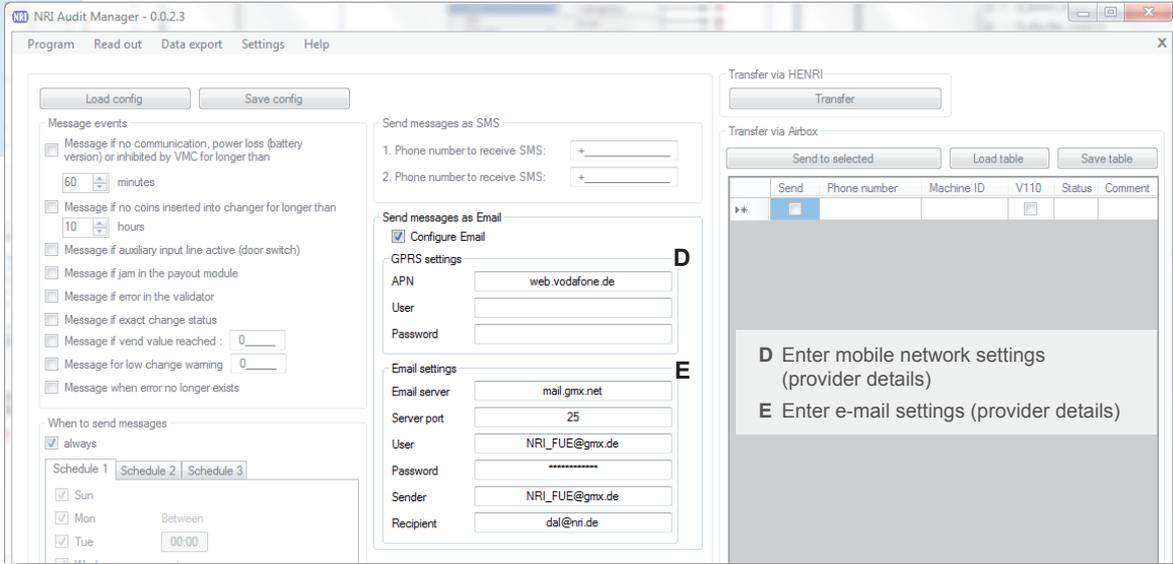

Fig. 16: Setting up e-mail communication
- 2 Contact your phone card provider and ask for the mobile network and e-mail settings suitable for your mobile phone contract/tariff [Fig. 16/D]:
- 3** Set up your e-mail client. For these data please also contact your phone card provider [Fig. 16/E]: